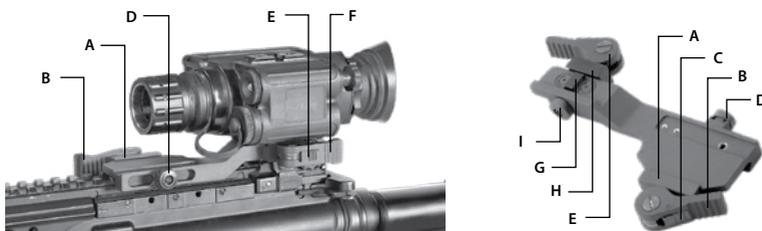

FIGURE 3-5. MOUNTING THE SPARK TO A WEAPON WITH A QUICK-RELEASE PICATINNY WEAPON MOUNT
1. While pushing down on the lever holder (C), turn the lever (B) backwards to loosen the QRM clamping device (A).
2. Install the QRM on the weapon rail by inserting the stop (not shown in Figure 3-5) into one of transverse slots of the weapon rail.
3. To secure the QRM onto the weapon rail, turn the lever (B) forward. Secure the clamping device (A) tightly to the weapon rail. To adjust the force of the lever clamp, loosen or tighten the nut (D) as necessary:
- When the clamping device (A) unlocked, push the lever holder (C) so that the nut (D) gets out of its hollow.
- To tighten/loosen clamping device, turn the nut (D) CW/CCW, respectively, by one-two increments (the eight-sided nuts of the AIM clamping devices fit their hollows only if turned in one of the discrete positions), when the holder (C) pushed. Just as the holder (C) released, backmoving springs makes the nut (D) get back into its hollow.
4. While pushing down on the lever holder (F), turn the lever (E) forward.
5. Install the Spark on the QRM rail by inserting the stop (G) into the transverse slot of the unit rail.
6. Attach the Spark to the QRM rail by turning the lever (E) backwards. Secure the QRM clamping device (H) tightly to the Spark rail. To adjust the force of the lever clamp, loosen or tighten the nut (I) as necessary.